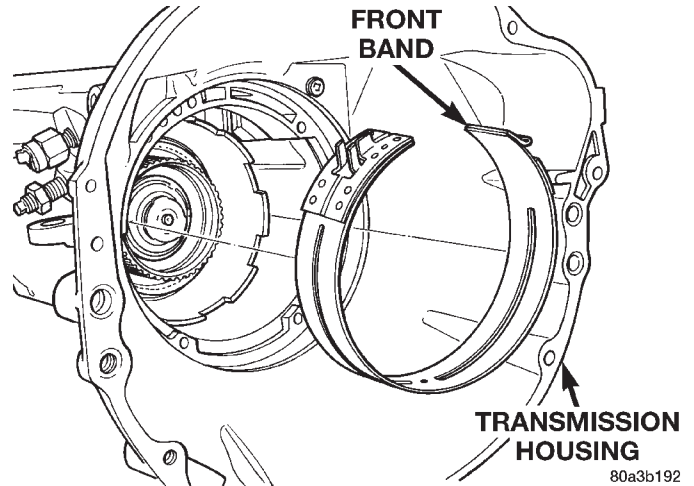
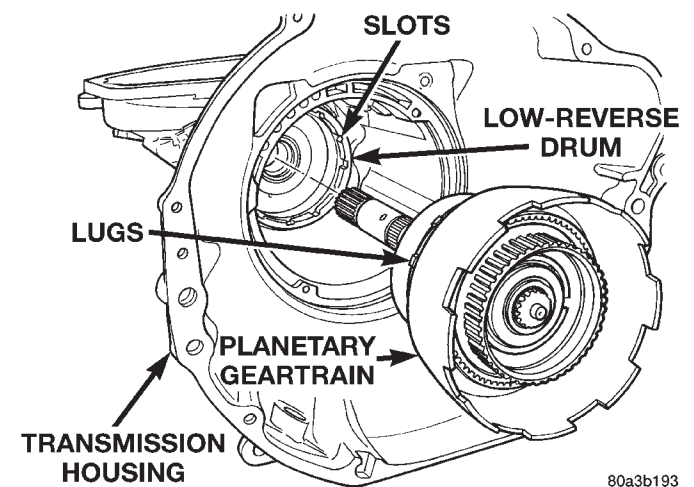

Fig. 82 Front Band
Fig. 83 Planetary Geartrain
(22) Remove front band from case (Fig. 82).
(23) Remove extension housing from transmission case.
(24) Remove governor body and park gear from output shaft.
(25) Remove output shaft and planetary geartrain as assembly (Fig. 83). Support geartrain with both hands during removal. Do not allow machined surfaces on output shaft to become nicked or scratched.